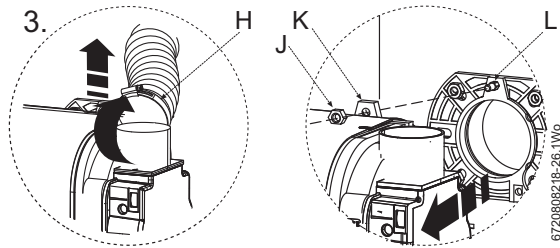

Fig. 37
3. Unscrew to loosen the retaining ring (H) that secures the flexible air supply tube to the burner (I) and pull the flexible air supply tube free from the burner (see figure 37).